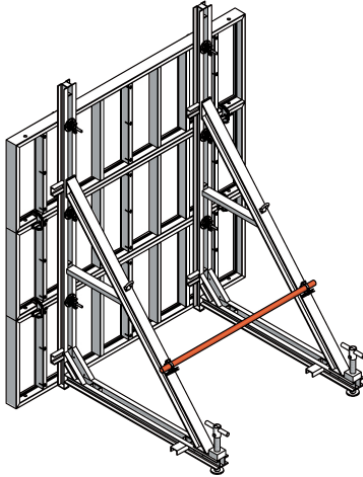

Fig. 7.1
To build the required diagonal bracing, scaffold tubes ( $\varnothing 1.9''$ ) and swivel joint couplers are necessary. Units built out of STB 300 frames only, need one (1) horizontal tube (Fig. 7.1).